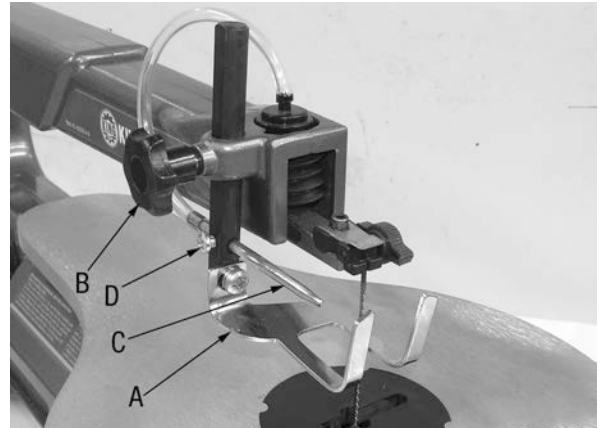

Figure 7
1. After placing your workpiece on the table (before turning scroll saw to the "On" position), the drop foot (A) Fig.7 must be adjusted just above the top but not in contact with the workpiece. Loosen drop foot lock knob (B), lower drop foot assembly to recommended height and retighten lock knob (B).
2. Position the blower tip (C) Fig.7 so that it points directly at the blade. Loosen screw (D), pivot blower tip in the recommended position and retighten screw.